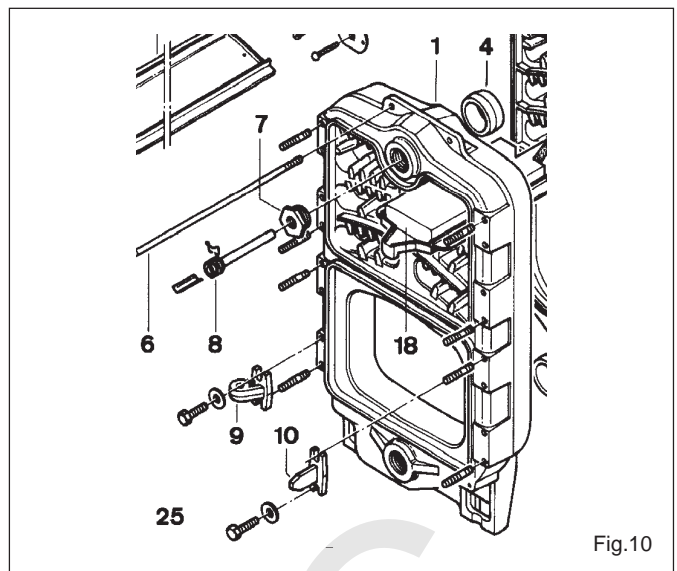

Fig.10
Sensor pocket (8) (fig.10)
- Screw the pocket and its hexagon bushing (7) in the front section's 2" upper tapping, in a leak-tight manner.
(fig.10, bottom tapping 2")